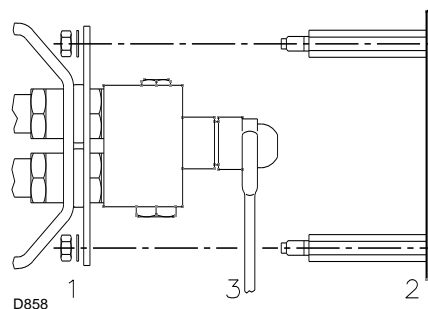

Fig. 12
- remove the nuts 1)(Fig. 12) and the disk 2).
- Use spanner 3)(Fig. 12) to change the nozzles.